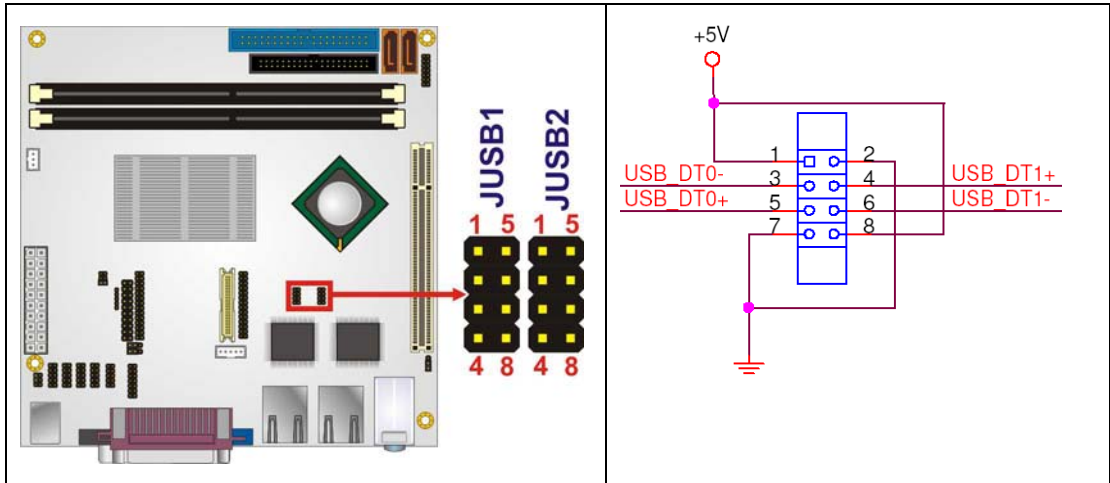

Figure 4-17: USB Connector Pinout Locations
- CN Location:** See Figure 4-17